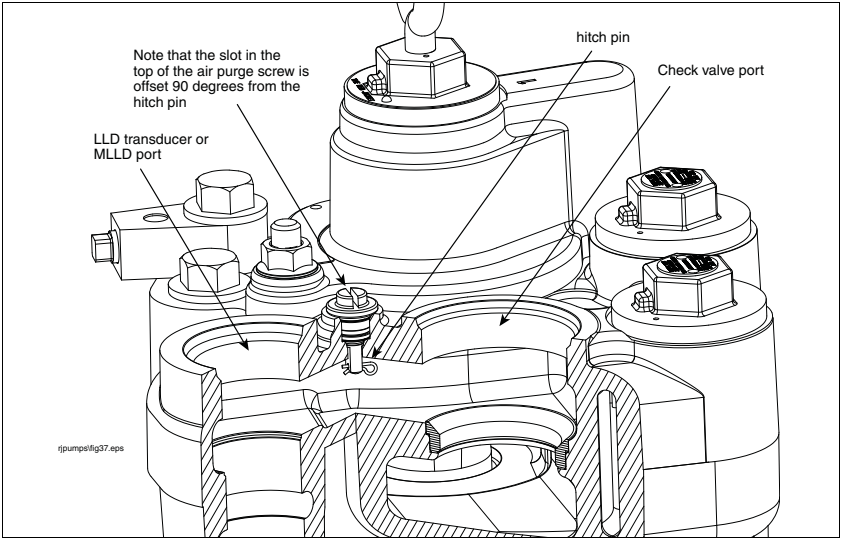

Figure 43. Locating Air Purge Screw Hitch Pin
6. The air purge screw has a hitch pin that is set in the horizontal position to limit travel of the screw (see Figure 43).